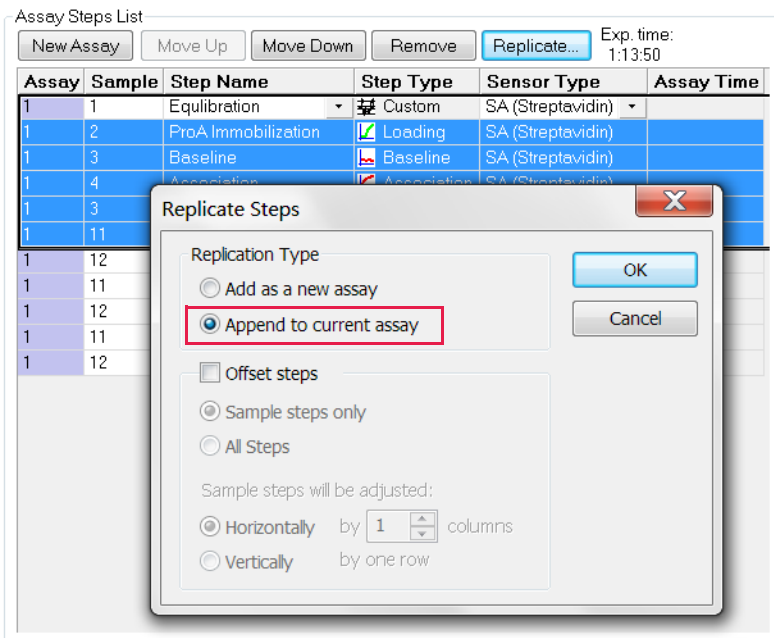

Figure 9-37: Replicating Assay Steps by Appending
- In the **Assay Steps List**, select the step(s) to copy and click **Replicate** (for example, in Figure 9-37, step rows 1–4 are selected).
- In the **Replicate Steps** dialog box (see Figure 9-37), click the **Append to current assay** option.